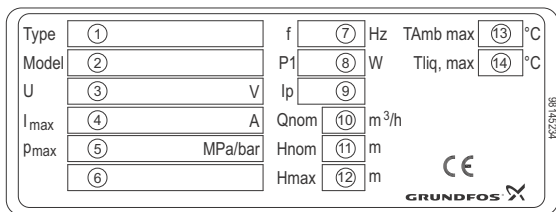

Fig. 2 Nameplate
The RCME system consists of the following main components: Position numbers refer to fig. 2, page 25.
A non-return valve is fitted on the booster pump discharge manifold, see pos. 9 on fig. 2, page 25.
Position numbers refer to fig. 2, page 25.